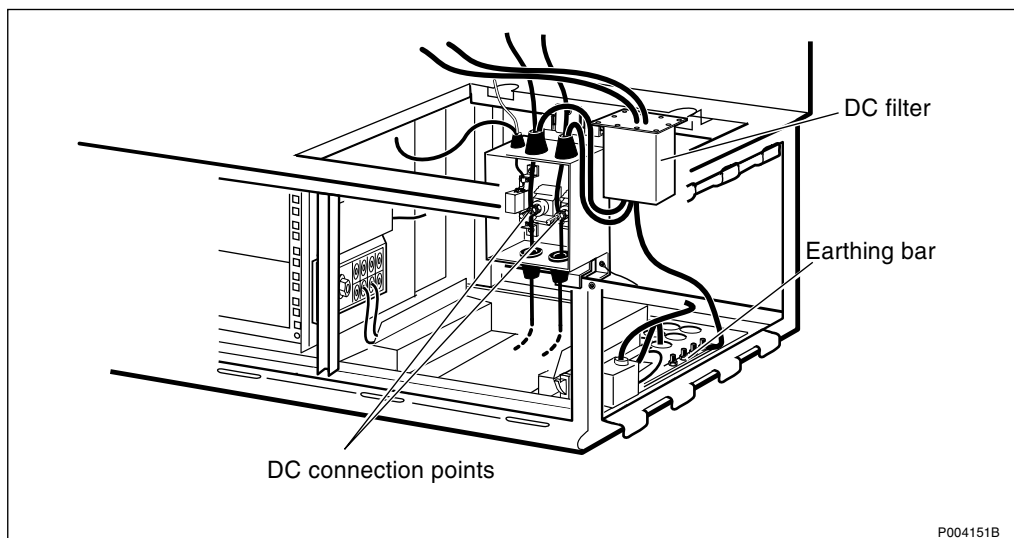
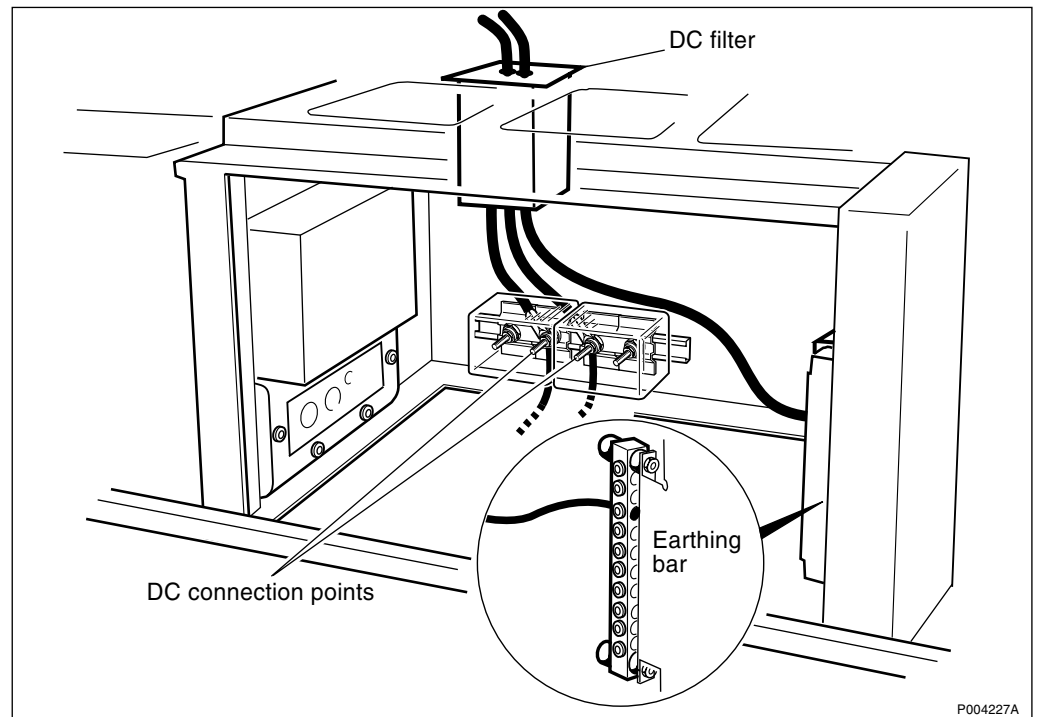

Figure 159 Replacement of DC filter, old design
Figure 160 Replacement of DC filter, new design
8. Remove the DC filter connectors from the DC connection points and the earthing cable from the earthing bar. Refer to Figure 159 on page 290 or Figure 160 on page 291.